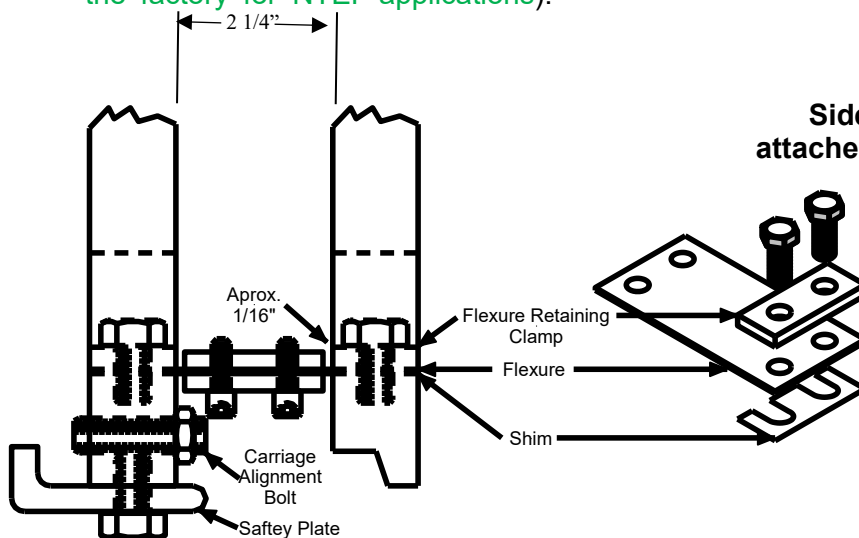
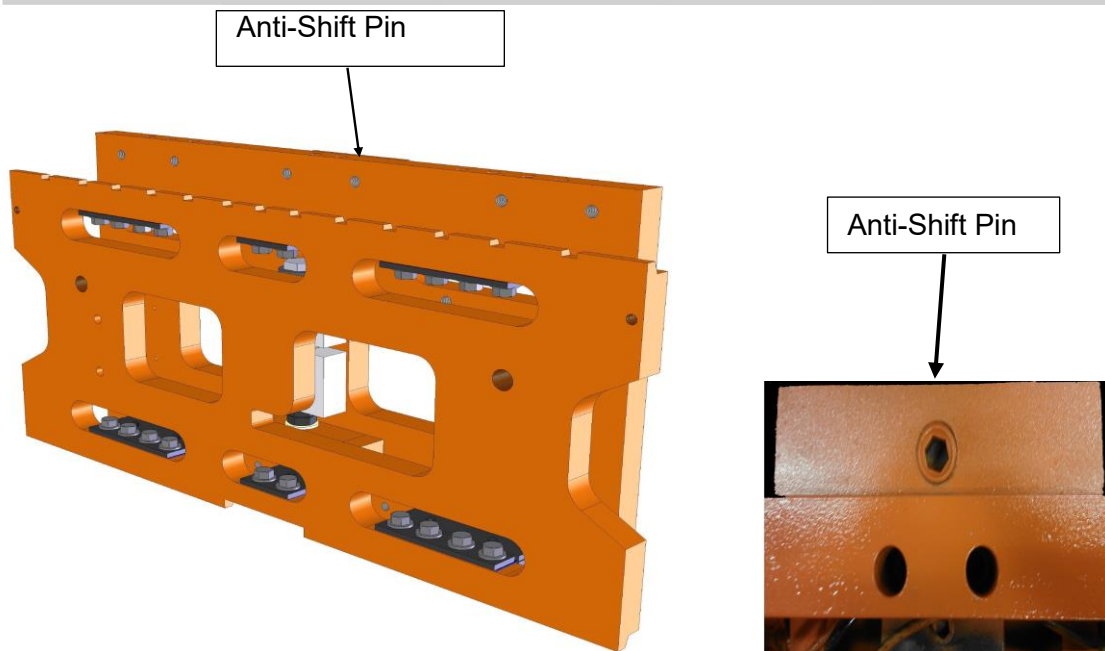

Figure 2:
Figure 3: Anti-Shift Pin
- Raise or lower the lift truck carriage and tilt the mast forward to a position that aligns the anti-shift pin (Fig. 3) on the scale assembly with the center notch on the lift truck carriage. Tilt the mast back to catch the scale assembly and carefully raise the carriage to a comfortable working position. Reattach the safety plates to the bottom of the scale assembly, so that the lip of the safety plate is behind the original carriage (Fig. 2).
- Replacement of bottom flexures is more complex than the top flexures in that most shims used for achieving heel-to-toe balancing are located in the bottom row of flexures. Carefully remove flexures (one at a time) from the bottom row and look for shims beneath. **Shims must be returned to their original position between flexure and scale.** (Fig. 2, pg. 9)